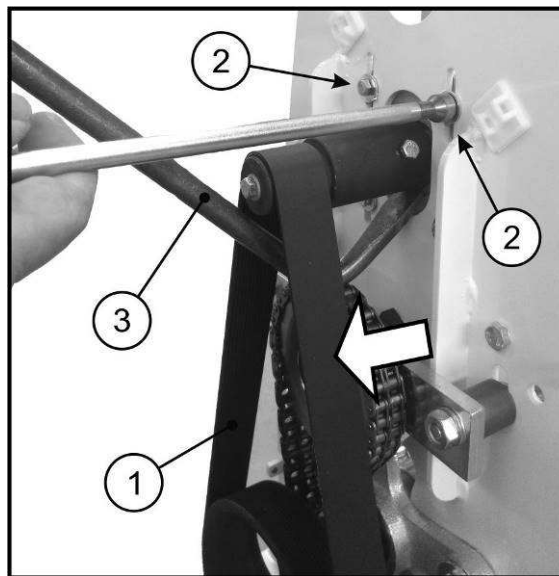

Figure 12
To adjust the tension of the two chains ref. 1, proceed as follows, with reference to Figure 12:
2. Loosen the 4 screws ref. 2 that lock the motor
3. Use the small lever ref. 3 to lift the motor and stretch the chain (as illustrated in the figure)
4. Fasten the 4 screws ref. 1 to lock the motor
To replace the chains, proceed as follows (refer to Figure 12):